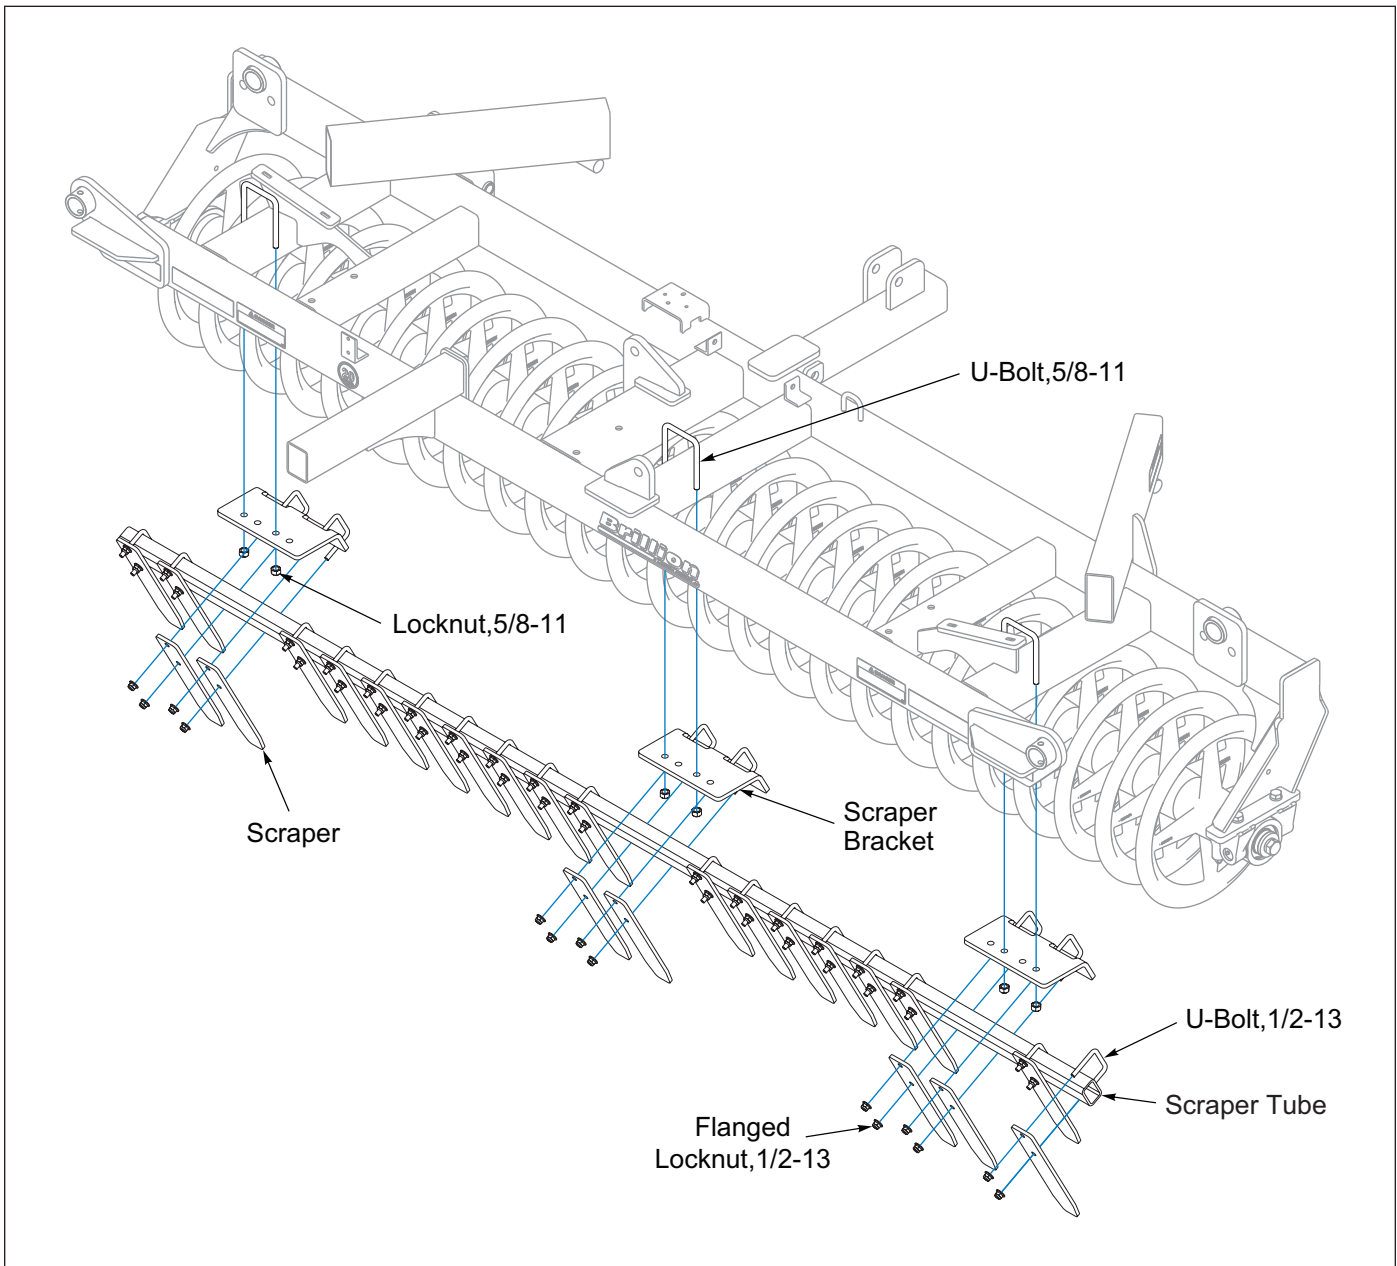

Figure 2-22: Center V-Wheel Scraper Installation
1. Place the Center Roller on level ground. Assemble 5/8-11 U-Bolts over the top of the frame center and outer cross tubes through the Scraper Brackets with Locknuts. **See Figure 2-22.** Do not tighten.